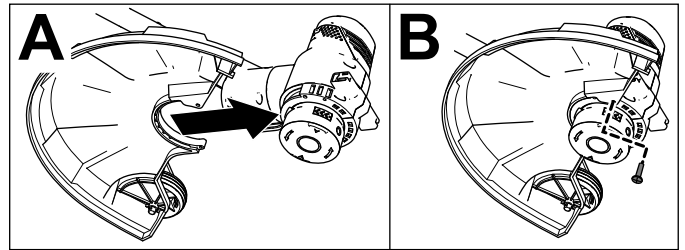

Figure 4
1. Remove the 3 Phillips screws that are taped to the guard and slide the guard onto the trimmer base (A of Figure 4).
2. Secure the guard onto the base of the trimmer with the 3 Phillips screws (B of Figure 4).